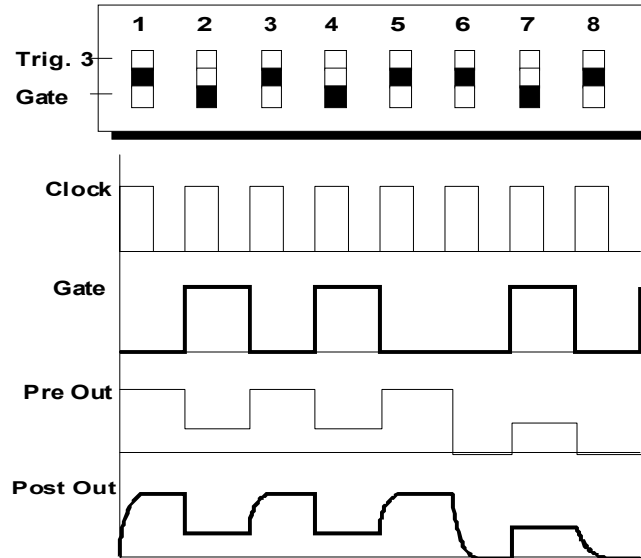

fig. 2: glide function
a speed determined by the Glide control knob (fig. 2).
If you patch the output from the Gate row into the **Glide Ctrl.** input ⑨, you can **switch the glide function on or off for each step**, like on the Roland TB-303 (see fig. 2). If you patch the gate output through an A-165 trigger modifier, every gate activates 'glide'.